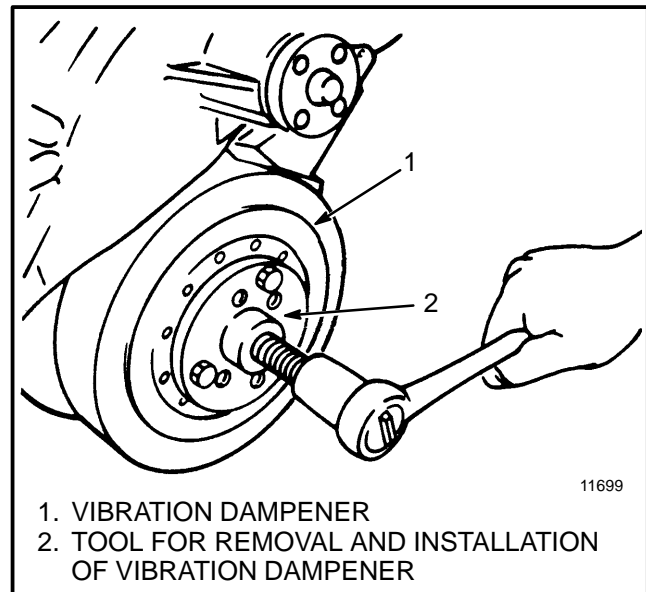

FIGURE 13. VIBRATION DAMPENER
3. Remove the vibration dampener. Use a tool that pulls on the center of the vibration dampener. (A special tool, GM Part No. J-23523 is available.) See FIGURE 13. Do not use a puller that pulls on the outside diameter of the vibration dampener.
7. Install the vibration dampener. Use a tool that presses on the center of the vibration dampener. (A special tool, GM Part No. J-23523 is available.) See FIGURE 13. Do not use a tool that pushes on the outside diameter of the vibration dampener. Make sure the hub of the vibration dampener is against the crankshaft gear. Tighten the capscrew for the vibration dampener. See TORQUE SPECIFICATIONS.